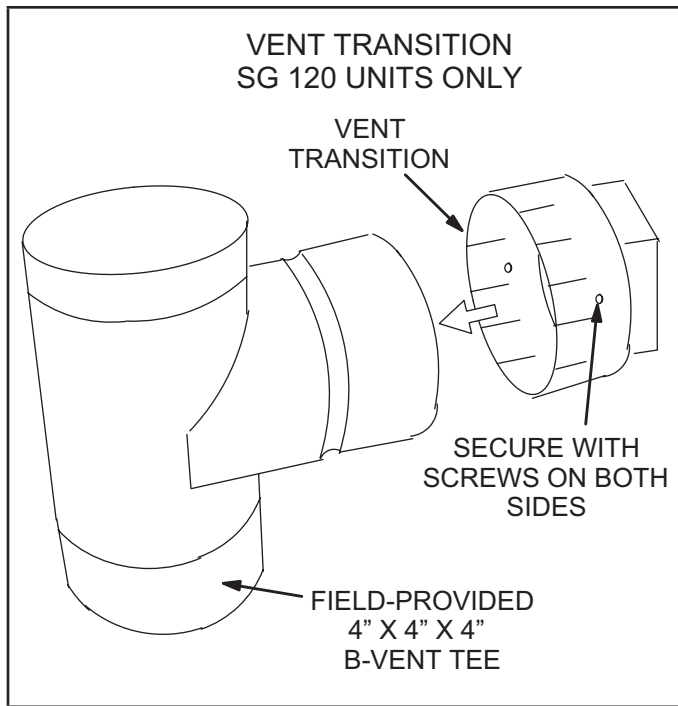
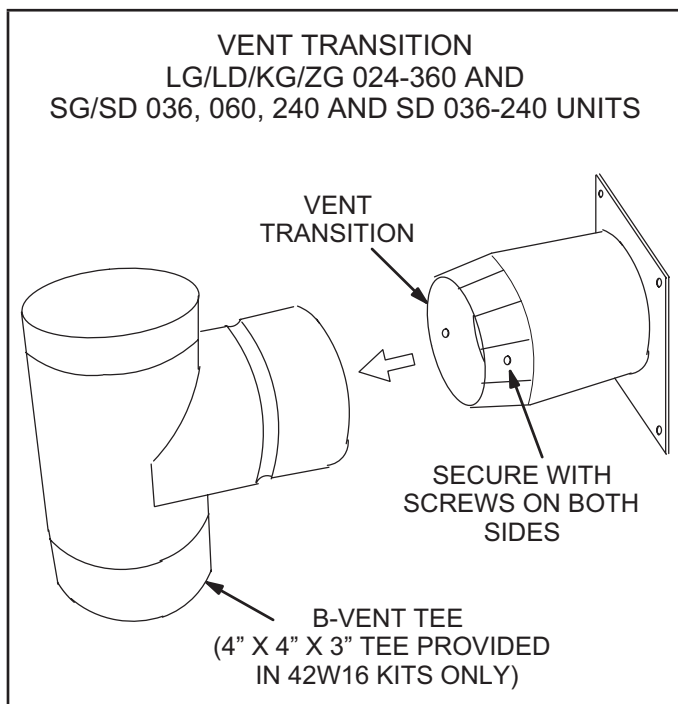

FIGURE 1
FIGURE 2
- 3 - Install vent transition in field-provided B vent tee as shown in figure 1 for SG 120 units ONLY. See figure 2 for all other units.